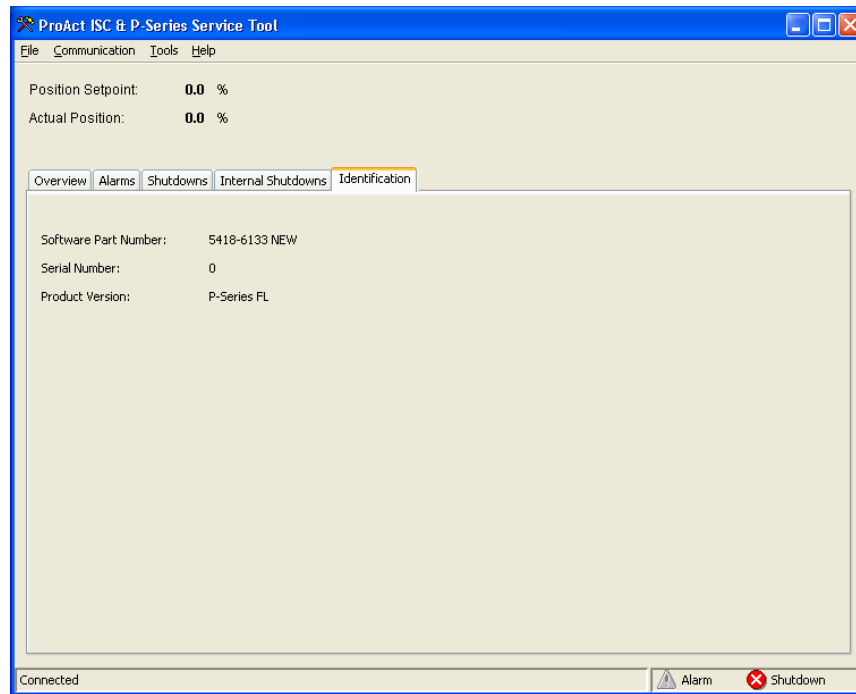

Figure 4-5. Service Tool—Identification Tab
- Identification, (see Figure 4-5)